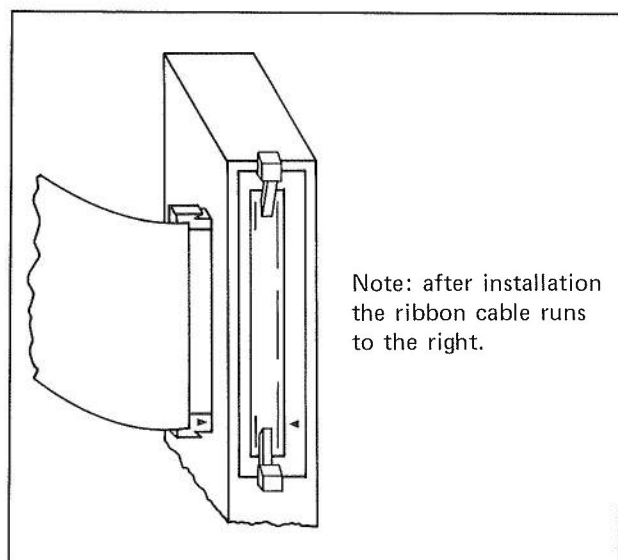

Figure 8 — Proper Connector Orientation
Step 14 — Connect the Distribution Panel Cable with the 50-pin male connector on the Module. Orientation is important! Be sure the molded plastic triangles on the connector and on the Module's Lens line up. (See Figure 8.)